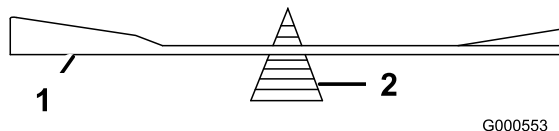

Figure 59
2. Check the balance of the blade by putting it on a blade balancer (Figure 59).